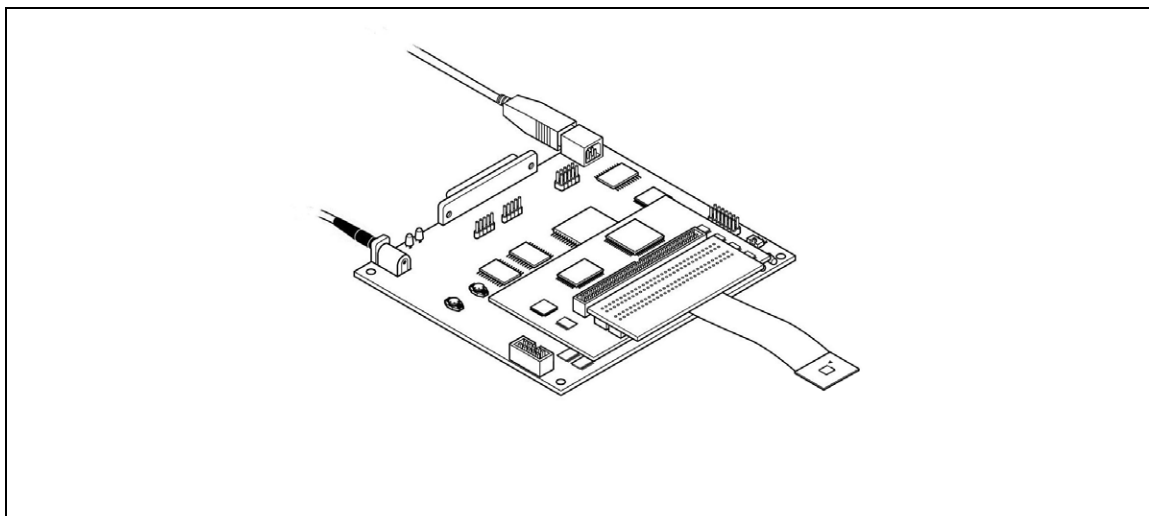

Figure 13: DVP3 configuration for TQFP32 emulation
- 3 Connect the TEB adapter to connectors J1 and J2 of the ST7MDT20-DVP3 TEB as shown in Figure 13.